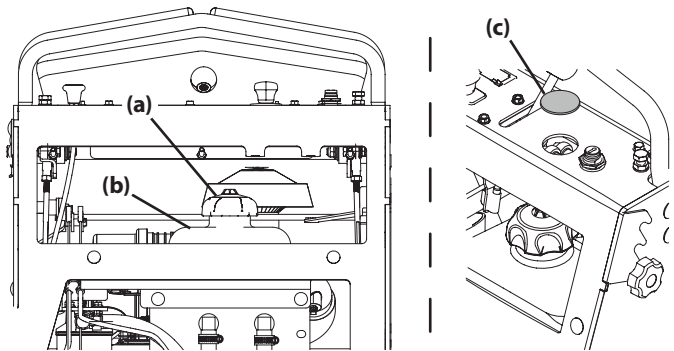

Figure 28
5. Mowers with 48, 54 or 60 inch Mowing Decks Only: Insert a funnel into the reservoir (b). (Figure 28).
- a. Remove the black cap (c) from the control panel by reaching under the panel and squeezing the two tabs and pushing up (Figure 28).